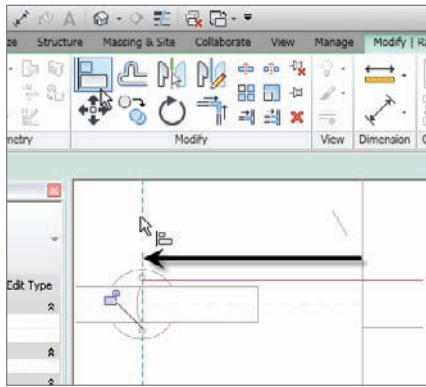

FIGURE 10.19 Aligning the end of the railing to the new family
3. Click the Align button on the Modify | Railings > Edit Path tab, as shown near the top left of Figure 10.19.
4. For the first alignment, pick the back edge of the family you loaded, as shown in Figure 10.19.
The magenta line will extend to the family (see Figure 10.19).